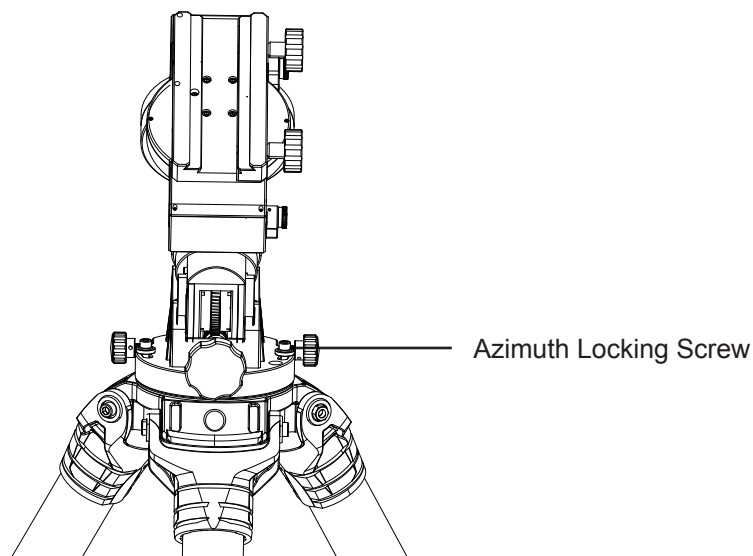

Fig. 1.2d
5. Tighten the two azimuth locking screws onto the tripod platform. Again, tighten the bolts enough for the mount to be stable but not too tightly. This is to allow azimuth fine adjustment using the horizontal azimuth adjustment knobs.(Fig. 1.2d)